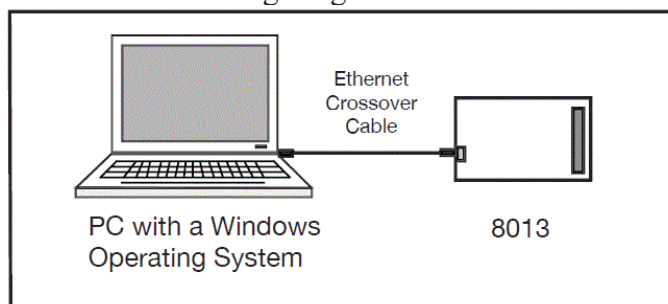

Figure 4-6 9006 Connected to PC with a Crossover Cable
1. Connect the board directly to the WIN32 PC that will be running the Configuration Utility. Disconnect the PC from the company network and use the supplied Ethernet Crossover Cable to connect the PC to the board as shown in Figure 4-6. This will eliminate any potential network conflicts while configuring the board.